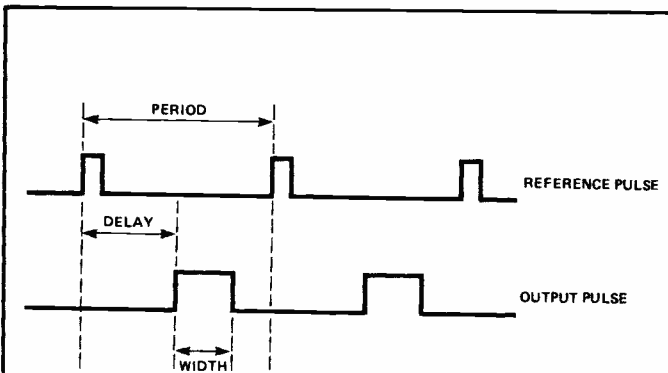

Fig. 1 Pulse delay and width control.
- Provision for delayed short pulse within overall period (Fig. 1)